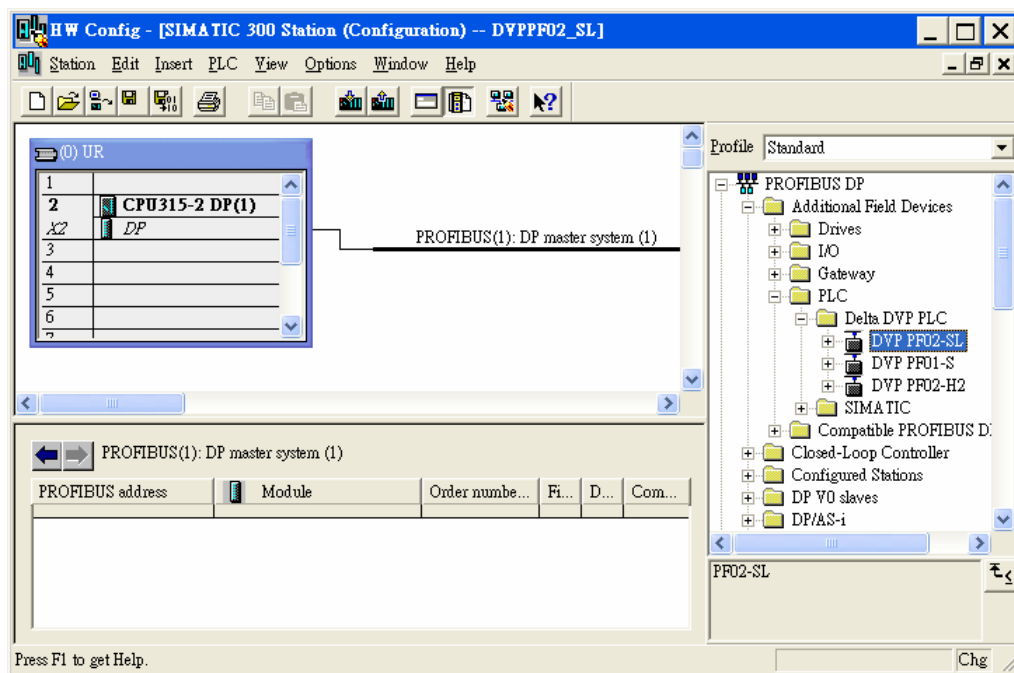

Figure 10-19
3. After the GSD file is added, we can find DVPPF02-SL in the right-hand side window, as Figure 10-19. DVPPF02-SL is the new module created.